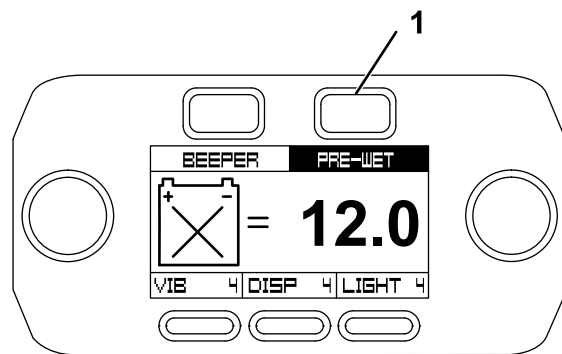

Figure 53
- Press the Pre-Wet button (Figure 53).